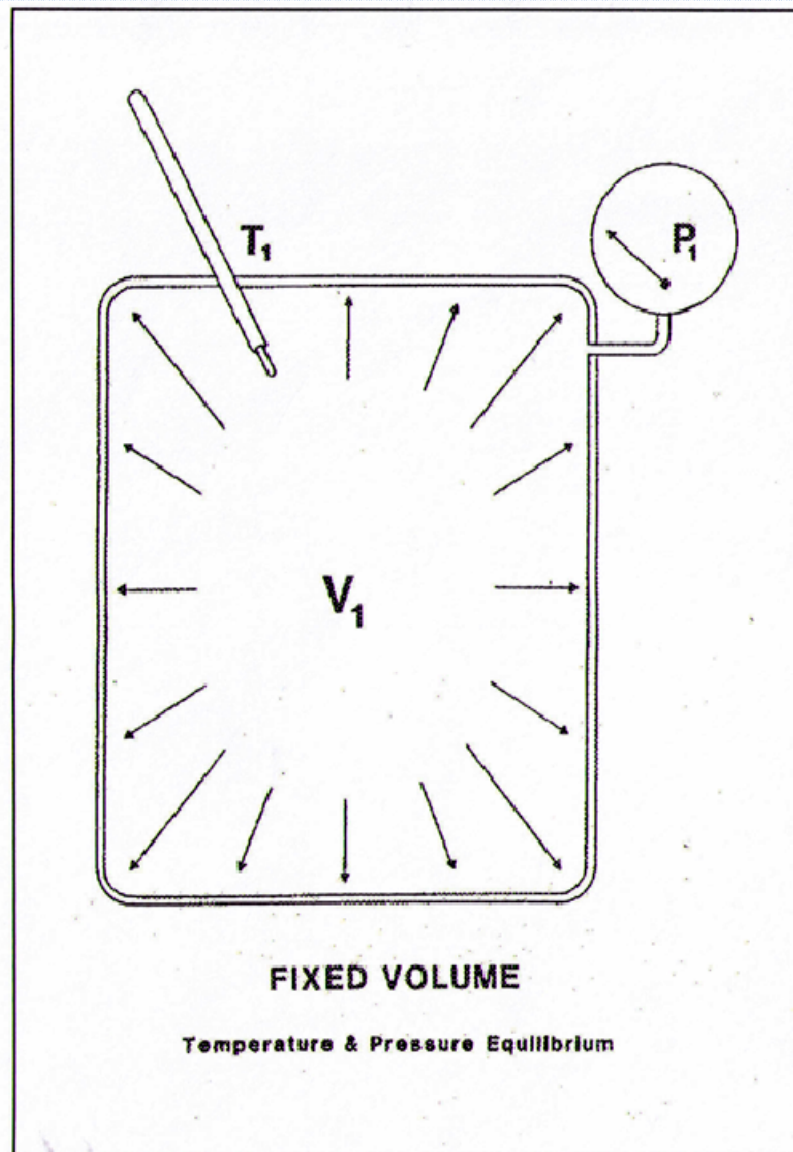

Figure 2-1 Fixed Volume
- These processes are illustrated in Figures 2-1 through 2-6 and 9-2, next.